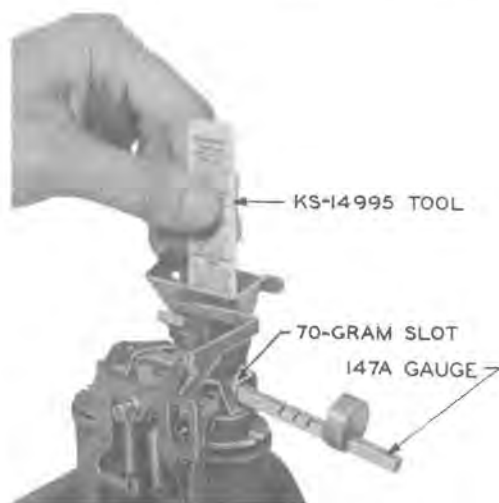

Fig. 62—Trap and Vane Release Test
6.114 Trap, vane, and relay should restore fully to their unoperated positions against a torque of 70 gram-inches applied to relay operating arm with a 147A gauge (Fig. 62). Test as follows:
- (1) Remove shield from relay.
- (2) Apply slot 70 of 147A gauge to right rear horizontal portion of relay operating arm. Make sure that enclosed end of slot is against edge of operating arm and that weight on gauge is positioned up, as shown in Fig. 62.
- (3) Press down on 147A gauge to operate relay and vane to limits of their travel.
- (4) Insert KS-14995, List 3 trap and vane test tool into throat of hopper to operate trap to the limit of its travel. Hold in place as shown in Fig. 62.
- (5) Release pressure on 147A gauge.
- (6) Slowly withdraw KS-14995 tool. Take at least 5 seconds.
- (7) Be sure that vane and relay return to their unoperated positions.
- (8) Make test three times with gauge on right (collect) side and three times on left (refund) side.